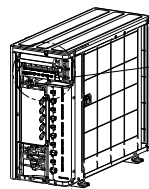

Fig. 1-3-1
- To avoid misconnection, please refer attached terminal label as shown in Fig. 1-3-1.